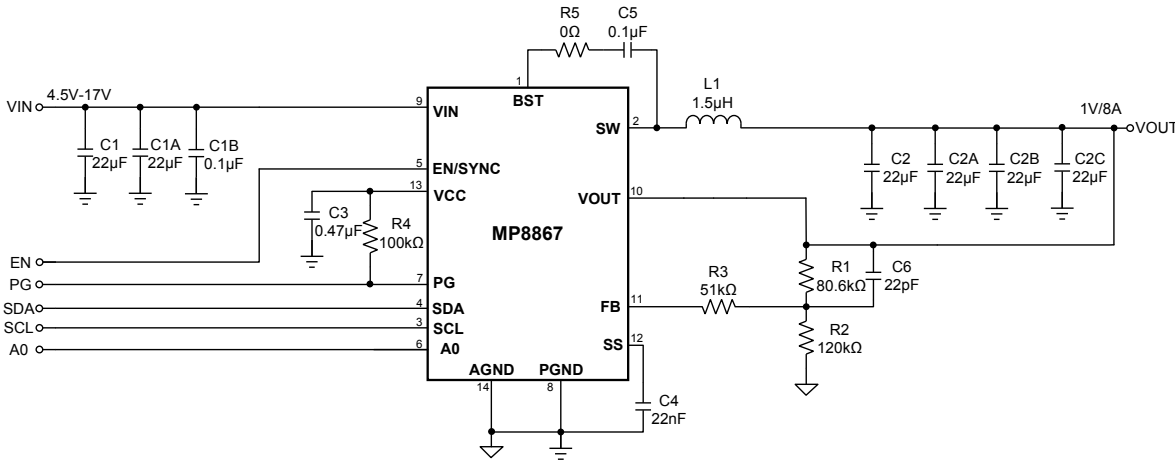

Figure 13:  $V_{IN} = 4.5-17V$ ,  $V_{OUT} = 1V$ ,  $I_{OUT} = 8A$
12) The recommended layout is based on Figure 13.
The detailed application schematics are shown in Figure 13. The typical performance and circuit waveforms are shown in the Typical Performance Characteristics section. For more device applications, please refer to the related evaluation board datasheets.